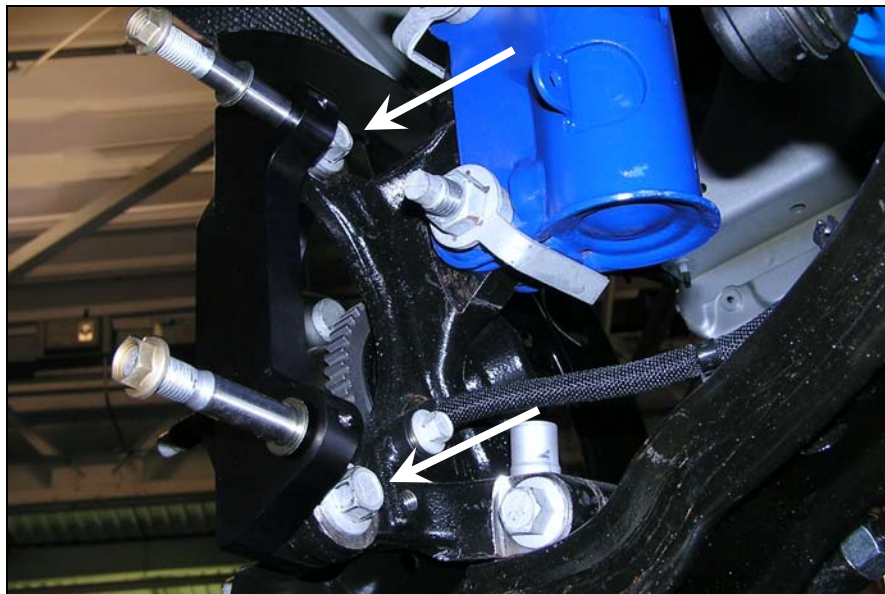

Figure 10
2. Install a caliper mounting bracket to each spindle using the new caliper bolts. Refer to Figure 10. Torque the bolts to 115 Nm (85 lb-ft).